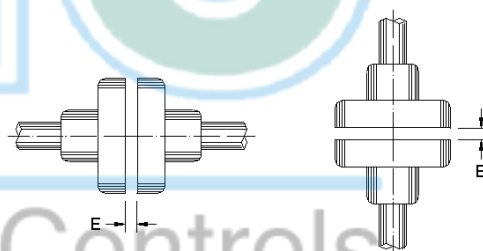

Figure 4.9: Axial clearance of the coupling (E)
Align the shaft ends carefully, and, whenever possible, use flexible coupling, leaving a minimum clearance (E) of 3 mm between the couplings, as shown in Figure 4.9.